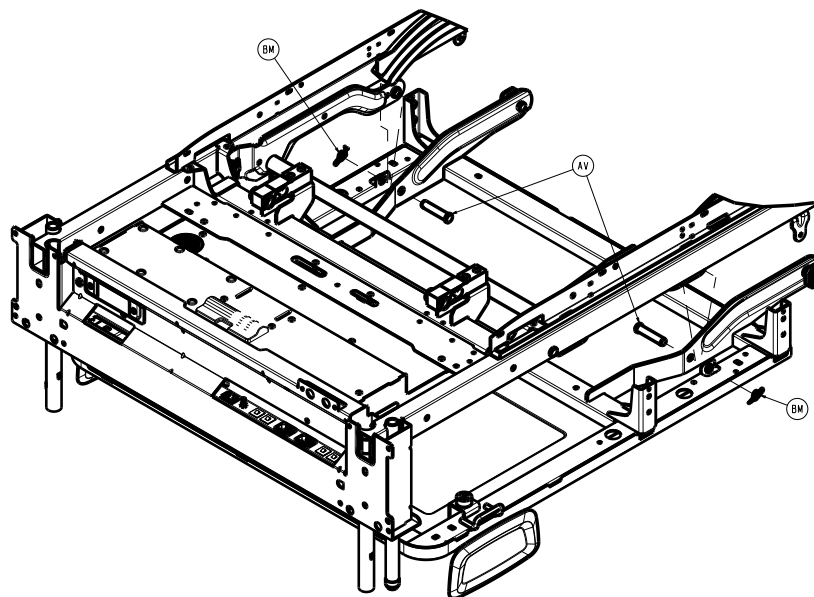

Figure 43 – Removing the left and right upper Fowler link rue clips
25. While you support the Fowler weldment, use needle nose pliers to remove the left and right side upper Fowler link rue clips (Figure 43).
27. While you continue to support the Fowler weldment, push up on the Fowler to relieve some of the pressure. Remove the left and right Fowler link clevis pins (Figure 43).